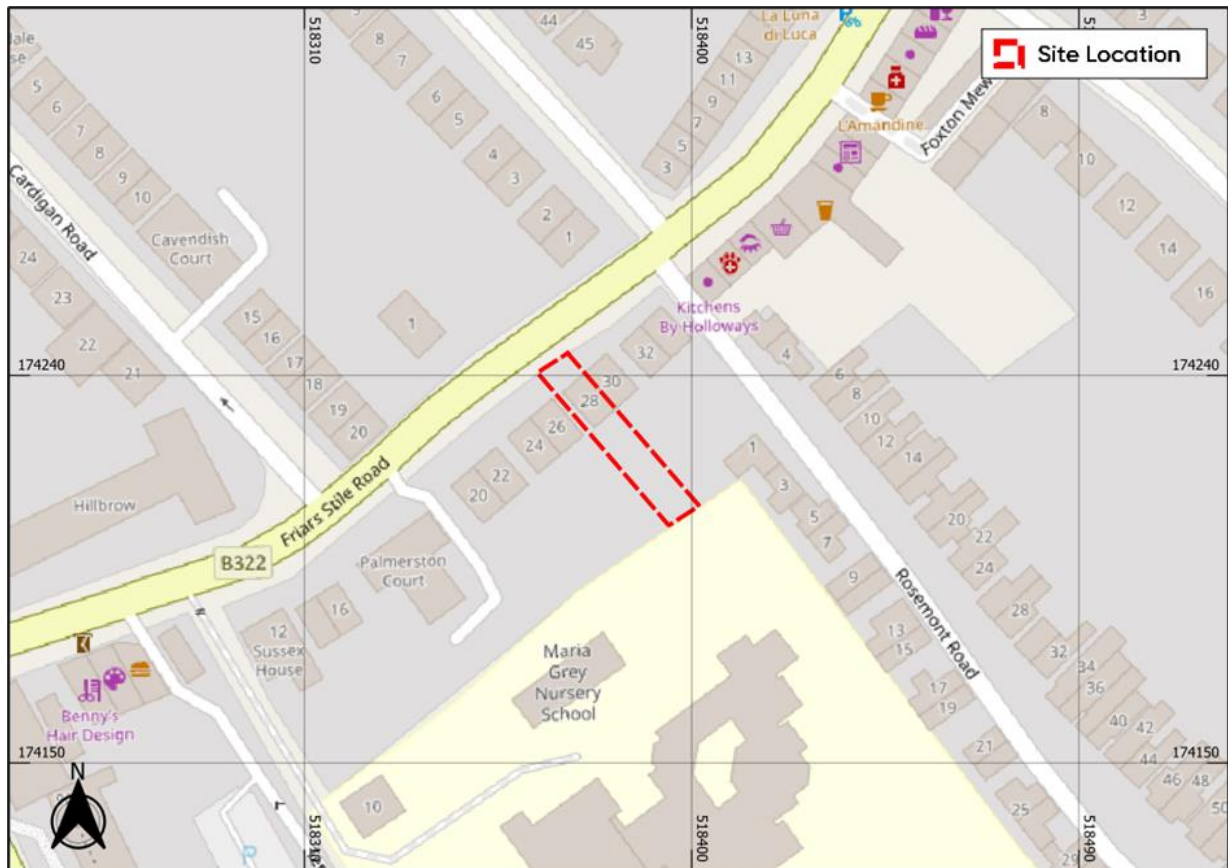

Figure 1: Site Location (Base map and data from OpenStreetMap and OpenStreetMap Foundation (CC-BY-SA). © <https://www.openstreetmap.org> and contributors
1.2. The site of the proposed development is 28 Friars Stile Road, London, TW10 6NE (Figure 1). It is understood that the proposed development is for the erection of a new rear extension at ground floor level and creation of a full basement with front lightwell and sunken terrace to rear at the above address. The proposed layout can be found within Appendix A of this document.